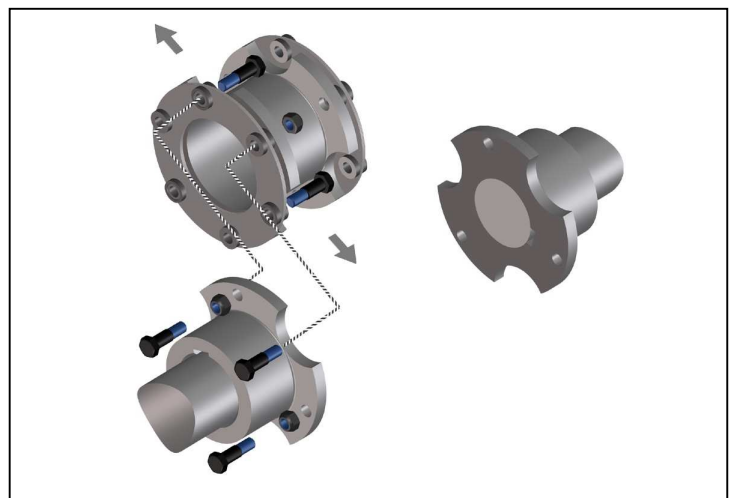

Fig. 6
- Place the spacer with the bushed disk packs between the hubs. (Fig. 6). This has to be done in such a manner that the fitted bores repose in the recesses of the mating part.
- Install the fitted bolts through the disk packs into the fitted bores. The nuts have to rest on the flange (Fig. 6).